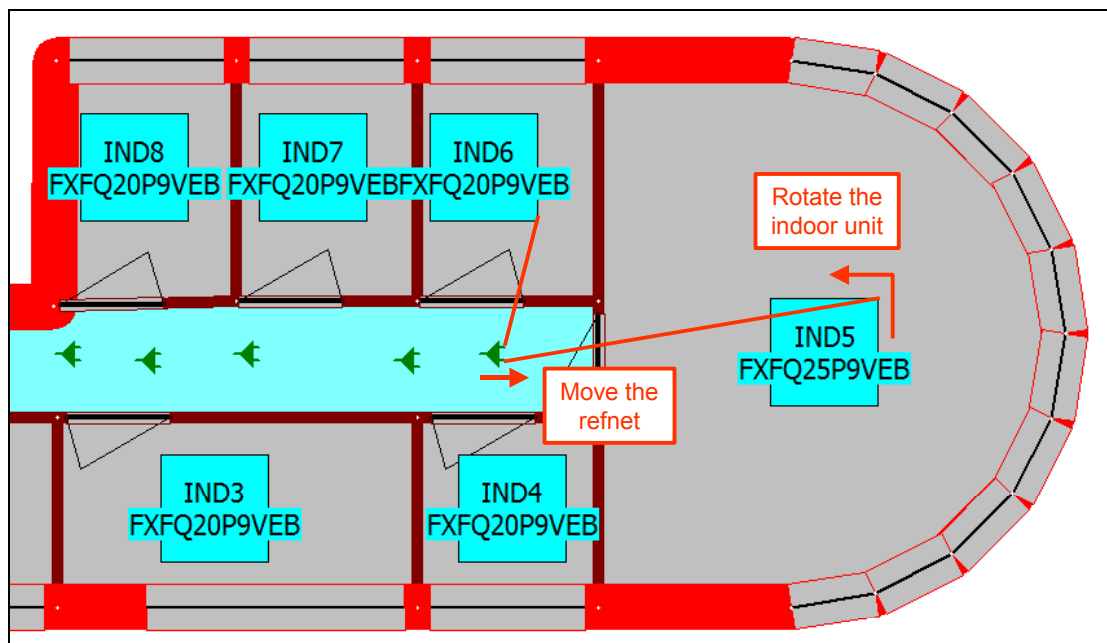

Figure 76: Placing joints and minimize the piping lengths
Figure 76 shows a part of the floor plan, on which a few joints have been placed. It is important to place them in areas where you can mount them. In addition, you should also try to minimize the piping to avoid getting problem with one of the possible piping limitations:
- A joint has two incoming pipes. Place the joint such you minimize the lengths of the incoming pipes. By moving the refnet a bit more to the right in Figure 76, both incoming pipes become shorter.
- Depending on the selected indoor unit model, it is possible to rotate it or swap it. This is important, as indoor units have a connection at one side. By rotating the indoor unit Ind5 in Figure 76, you may gain about 1m of pipe.